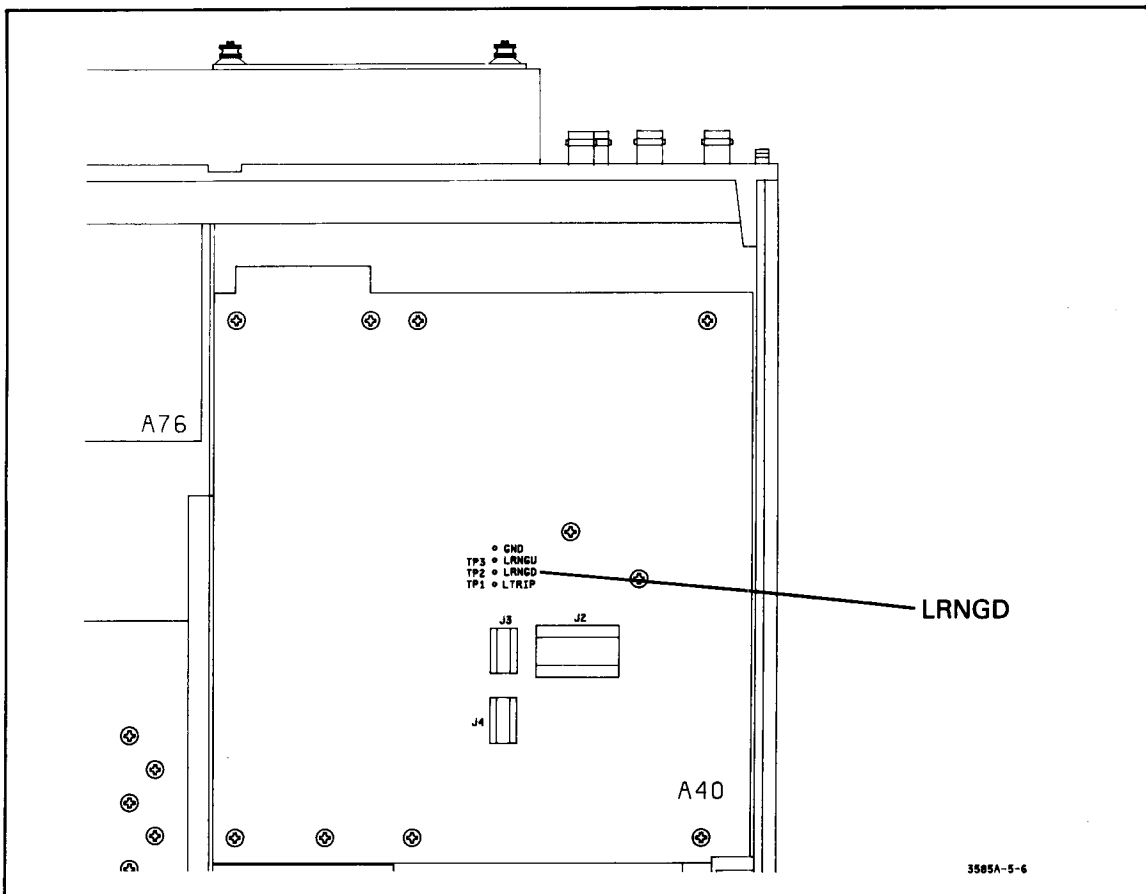

Figure 5-41. Range Down Monitor Point (LRNGD)
c. Connect a dc voltmeter (10V range) to the Digital motherboard, pin A45B19 or A40TP2 ('L' RNGD). This is accessible from the bottom of the instrument as shown in Figure 5-41.